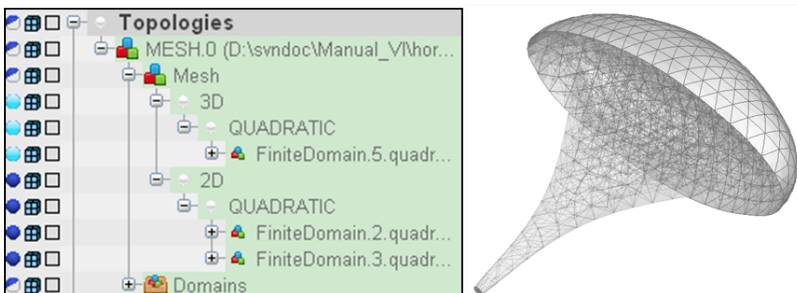

Figure 6.4: Adjust the visibility of the mesh
- *Adjust the visibility of the different trees in order to visualize the finite elements' wire. Set the 3D part semi-transparent, the 2D parts completely opaque, as shown in Figure 6.4*